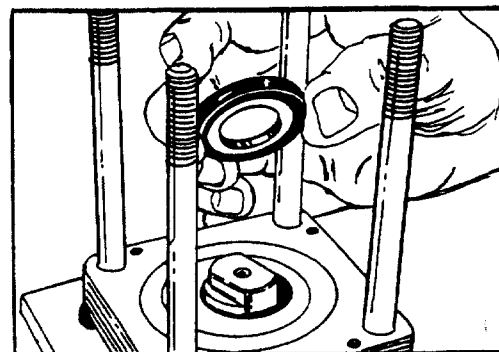

FIGURE 54.
10. Install face seal (29), back-up ring (30), and spacer (31) assembly over end of input shaft/wheel tube (33) onto upper cover plate (32). See figure 54.